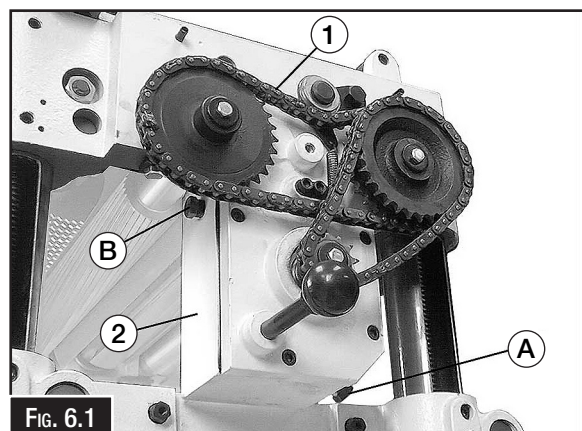

FIG. 6.1
1. Remove the drain plug (A, Fig. 6.1) with a 14mm wrench. Drain dirty oil thoroughly.
2. Insert and tighten the drain plug. (A, Fig. 6.1).
3. Remove filler cap (B, Fig. 6.1) and fill with clean lubricant through the hole. Fill until the oil reaches the top of the filler plug port for correct oil level.
4. Install and tighten filler cap (B, Fig. 6.1).